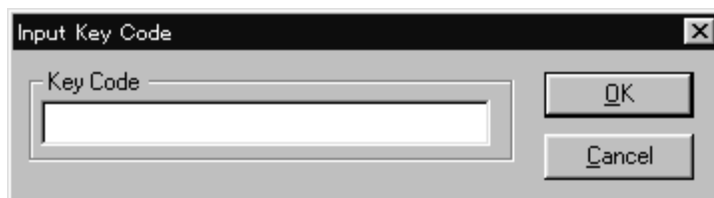

Figure 2.3 Input Key Code Panel
- The **Install...** button opens the Input Key Code panel (see Figure 2.3), which will prompt you for a password to complete the installation process.
4. The Input Key Code panel (see Figure 2.3) opens. Enter the license key (password) in the **Key Code** text box, and then select **OK**.
11. The Input Key Code panel (see Figure 2.3) opens. Enter the license key (password) in the **Key Code** text box, and then select **OK**.